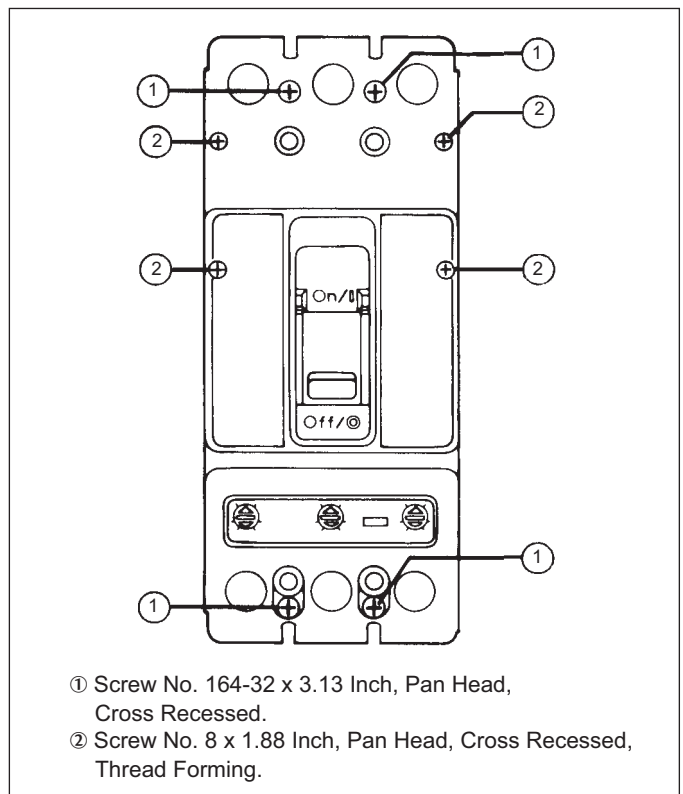

Figure 2-2 Cover Screw Installation Positions
- 2.4. Install cover, and secure with pan-head screws followed by threadforming screws, as shown in Figure 2-2.